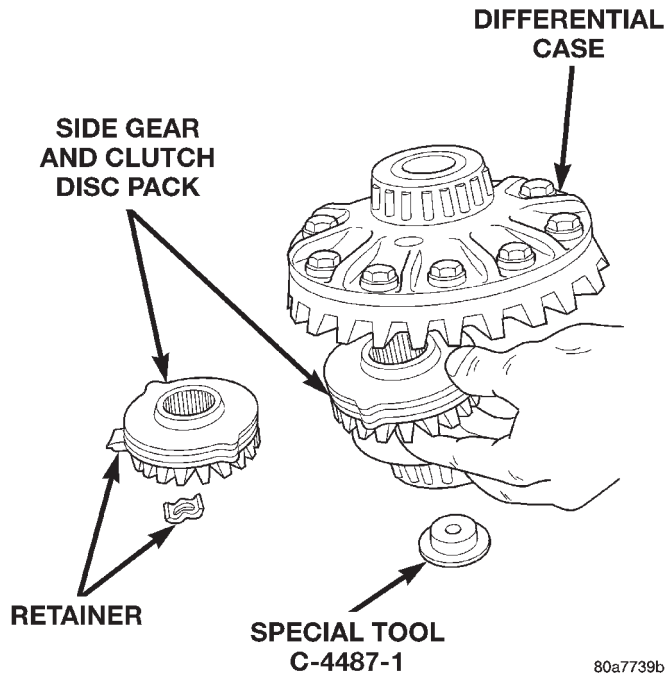

Fig. 71 Side Gear & Clutch Disc Removal
(14) Remove pinion gears from differential case.
(15) Remove Forcing Screw C-4487-2, Step Plate C-4487-1, and Threaded Adapter C-4487-3.
(16) Remove top side gear, clutch pack retainer, and clutch pack. Keep plates in correct order during removal (Fig. 71).